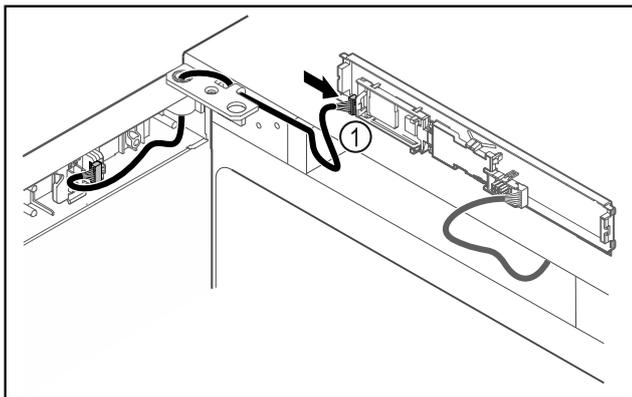

Fig. 48
- ▶ Connect the plug Fig. 48 (1) to the circuit board.